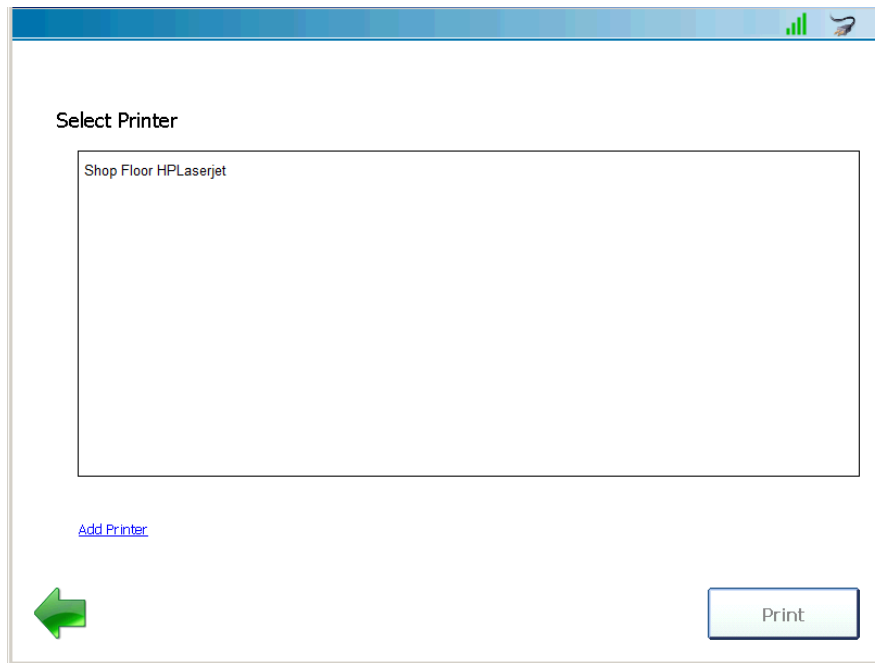

Figure 5.51 Select Printer Screen
- Touch **Print** to send the report to a printer using the Select Printer screen (Figure 5.51).